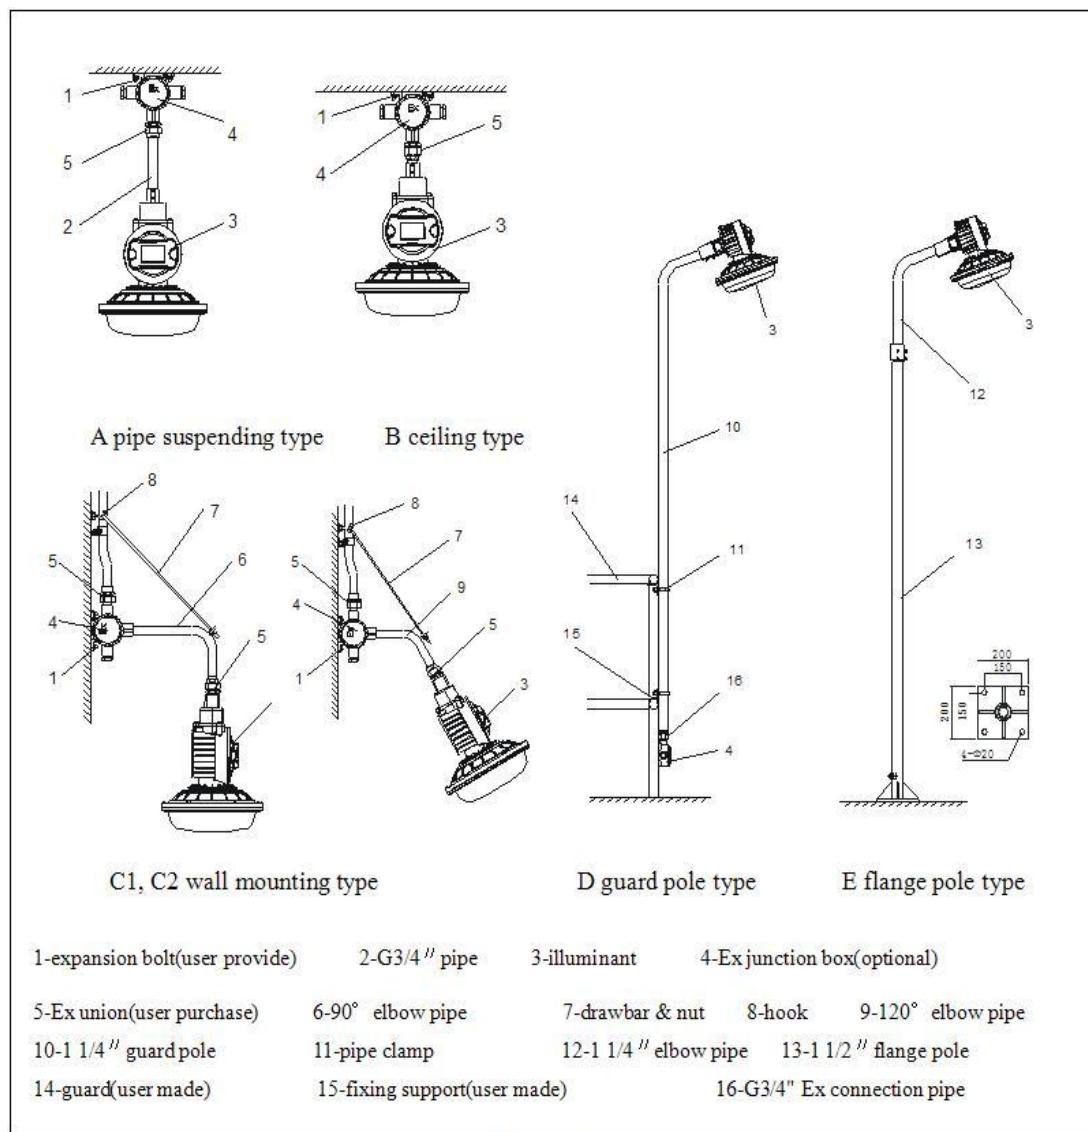

Figure 3
13. User shall follow the installation instructions to install the light correctly.(See Figure 3 for instruction)